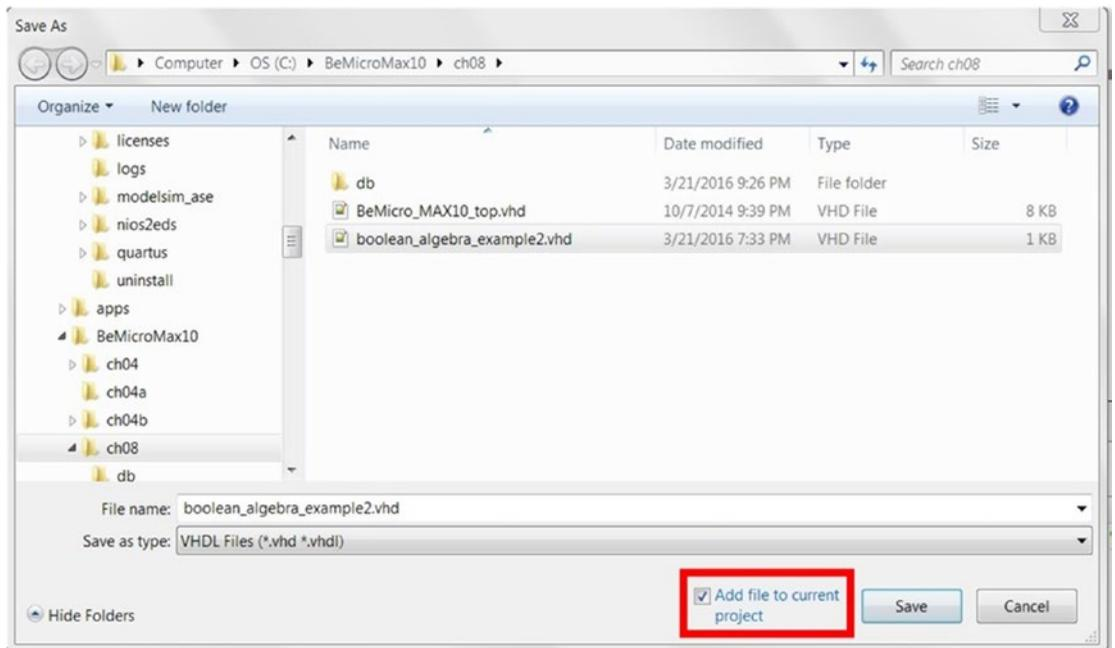

Figure 8-5. Save the VHDL file as `boolean_algebra_example2.vhd`
4. Copy the code from Listing 8-2 into the new VHDL file and save the file as `boolean_algebra_example2.vhd` with the check box `Add file to current project` ticked (Figure 8-5).